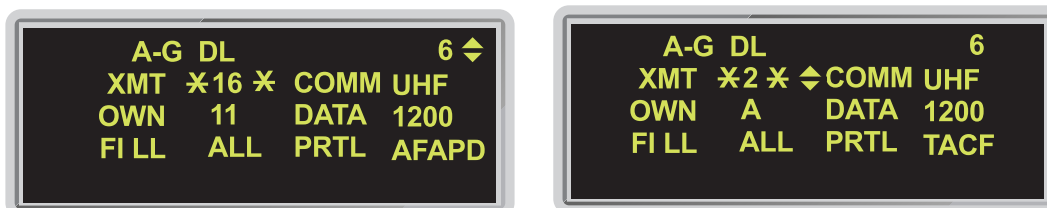
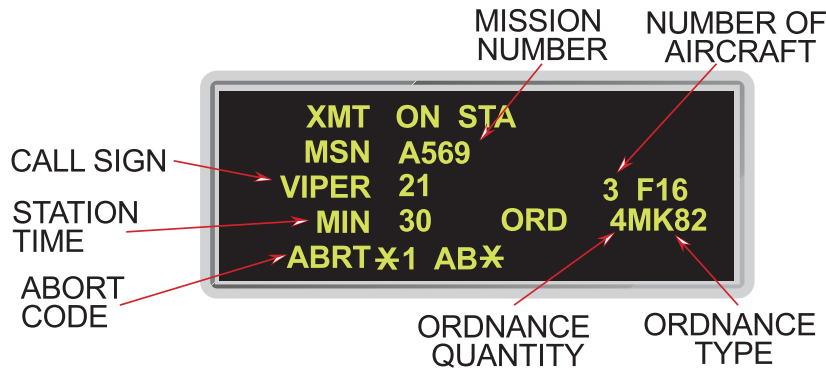

Figure 3-9 A-G DL Initialization Pages For AFAPD And TACF Protocols
Figure 3-11 CAS On Station Page
Depressing LIST and ENTR on the UFC displays the On Station (ON STA) page. Depressing the DCS to Sequence (SEQ) from the ON STA page steps to the A-G DL page (Figure 3-9). The A-G DL page allows entry/selection of the following parameters for transmission and reception of CAS On Station and Mission Update messages. With the exception of item 4 below, the selections on the A-G DL page have no impact on the Intra-flight data link transmissions.
- 3) **Fill Option (FILL):** ALL/NONE. Selection is via any key 1-9.
- 4) **Communications (COMM) Selection:** With the asterisks about the COMM field, depressing any key 1-9 selects the radio that will be used to transmit the On Station and Mission Update messages. Selection of UHF automatically de-faults Intra-flight data link transmissions to the VHF radio and vice-versa.
- 5) **Data Rate (DATA):** Depressing any key 1-9 with the asterisks about the DATA field rotaries through the transmission rates of the On Station and Mission Update messages between 16K (16,000), 8K (8,000), 2.4K (2400), and 1200 bits per second (bps).
- 6) **Protocol (PRTL):** Depressing any key 1-9 with the asterisks about the PRTL field toggles between the TACF and the AFAPD protocols.
The CAS On Station message must initially be loaded from the DTC to be available for transmission. The CAS On STA page (Figure 3-11) is accessed via LIST and ENTR on the UFC. The asterisk rotary for the On Station page is XMT, Call Sign Number, Number of Aircraft, Station Time, and Abort Code. With the asterisks about "XMT," depressing and releasing M-SEL transmits the On Station message and highlights "XMT" during the IDM transmission to the addressee shown to the right of the "XMT" mnemonic on the A-G DL page (Figure 3-9).